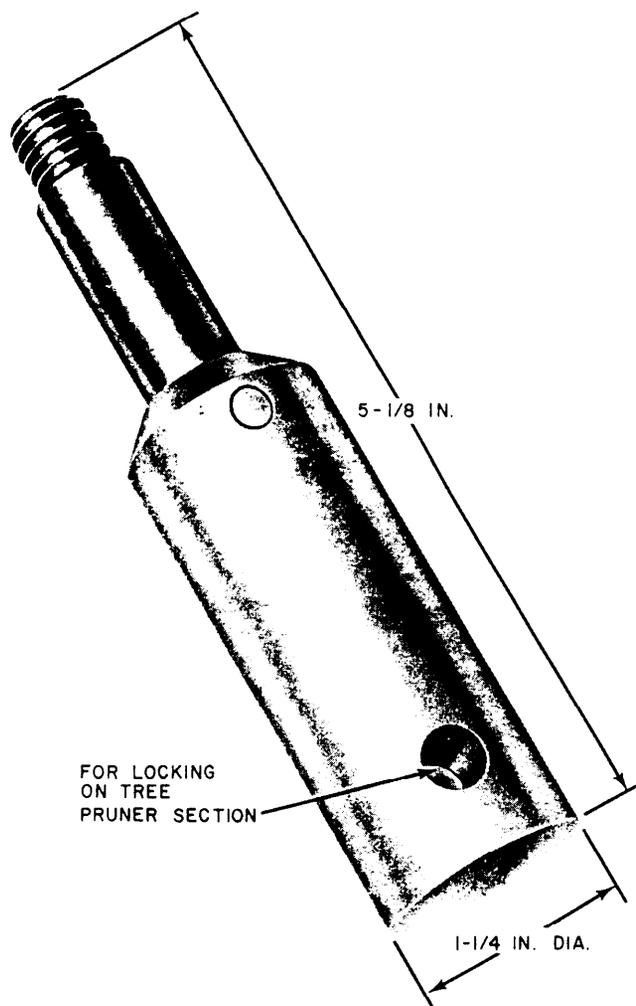

Fig. 25-B Clamp Wrench
6.08 The F span clamp is installed with a B clamp wrench (Fig. 25). The B clamp wrench consists of a machined and threaded steel rod that is locked and pinned in an aluminum body. The threaded end of the steel rod screws into the clamp screw of the F span clamp. The body of the wrench fits into the end of a tree pruner handle section and the recessed hold at the base is used for locking the wrench in the pruner section.